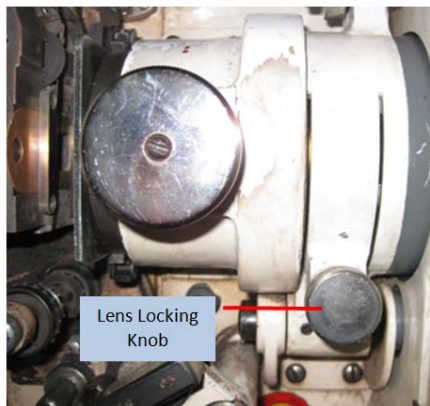

Figure 30: Lens Locking Knob
2. Locate and unscrew the lens locking knob by turning it in a counter-clockwise direction (see Figure 30 on page 25).